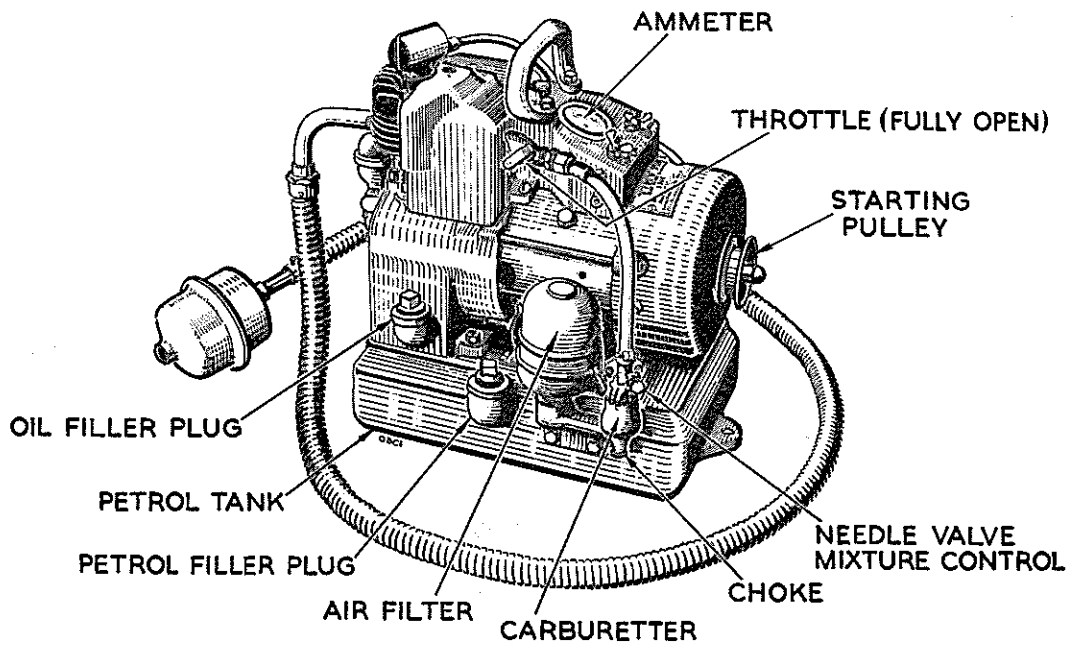

FIG. 2.
2. The Generating Set is illustrated in Figs.2 and 3 and consists of a petrol engine directly coupled to a D.C. generator. The hollow cast-iron base forms the petrol tank and oil is contained in the engine crankcase. An output ammeter, output terminals, and starter push-button are located above the generator and a cut-out unit is fitted on the side of the generator. A starting pulley, silencer and flexible exhaust pipe are provided and a carrying handle is fitted on top of the set.